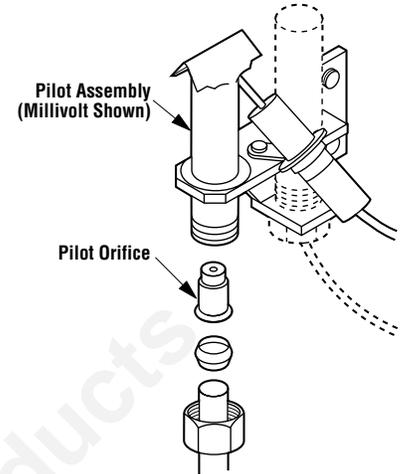

Figure 41
Step 7. Replace the pilot orifice with the one provided with the kit (**Figure 41**).